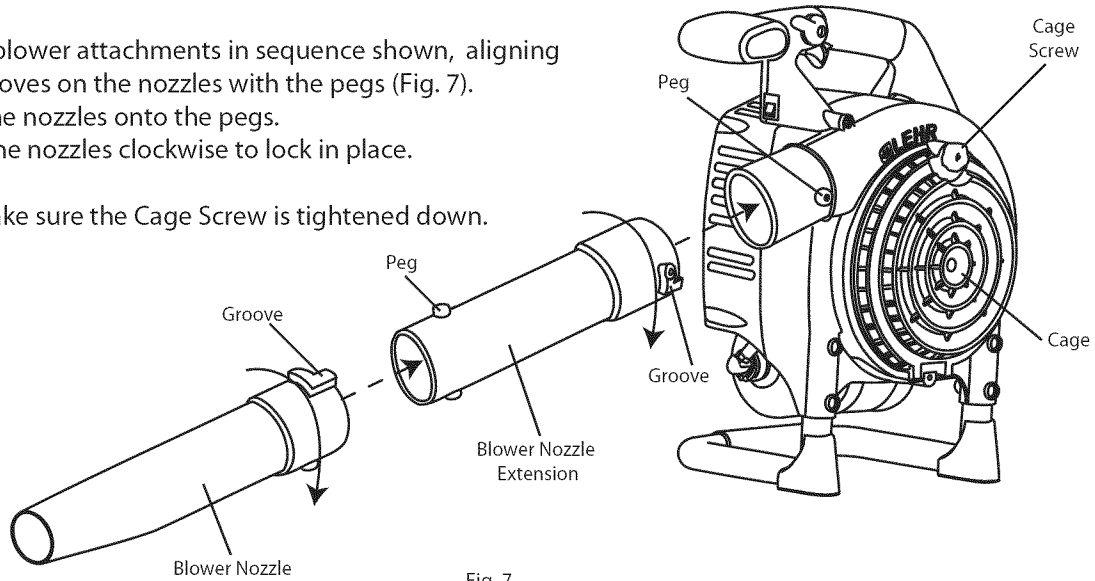

Fig. 7
1. Install blower attachments in sequence shown, aligning the grooves on the nozzles with the pegs (Fig. 7).